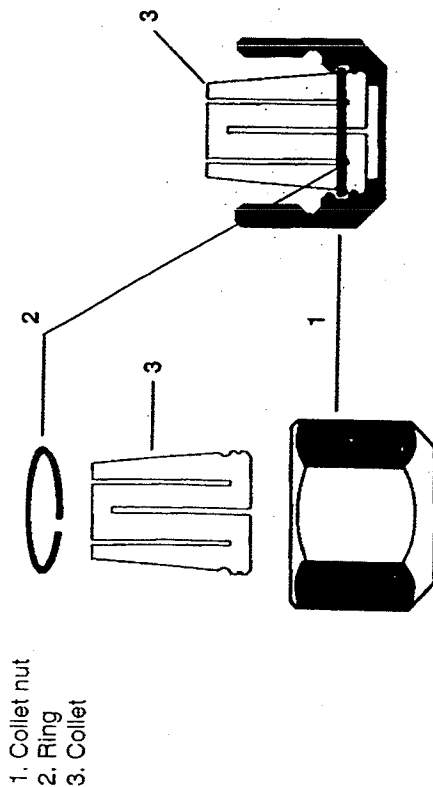

Figure 3
Changing the collet chuck assembly (figure 3)
4. Be certain that the collet ring is properly seated in the inner groove of the nut, (Figure 3) and insert the collet chuck assembly back into the armature shaft as described earlier.